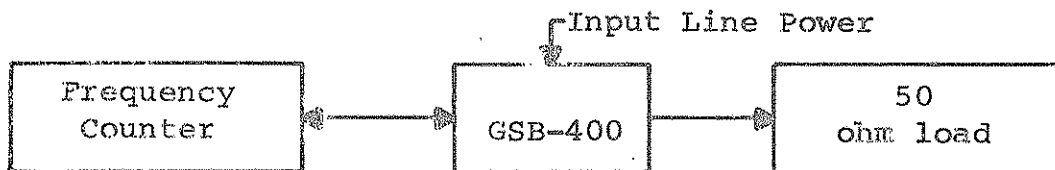

Figure 1
- (a) Refer to Figure 1 for equipment hook-up.
- (c) Channel selector switch in Channel (5) where Rec. Osc. is used. (Duplex)